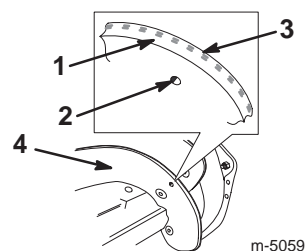

Figure 15
1. Examine a new rotor blade edge for the difference in the thickness of the rubber layers (Fig. 15).
Install the rotor blades with the thick rubber layer on the *inside* of the curved surface (Fig. 15). If you do not install the rotor blades properly, they will wear out more quickly.